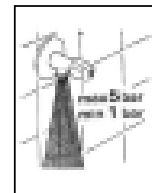

Fig 11.
- d) the main water pressure must not fall below 1bar. (14 PSI) or above 5 bar. (70 PSI). If pressure is above 5 bar. a pressure regulator should be fitted to the water supply to the machine (Fig.11)